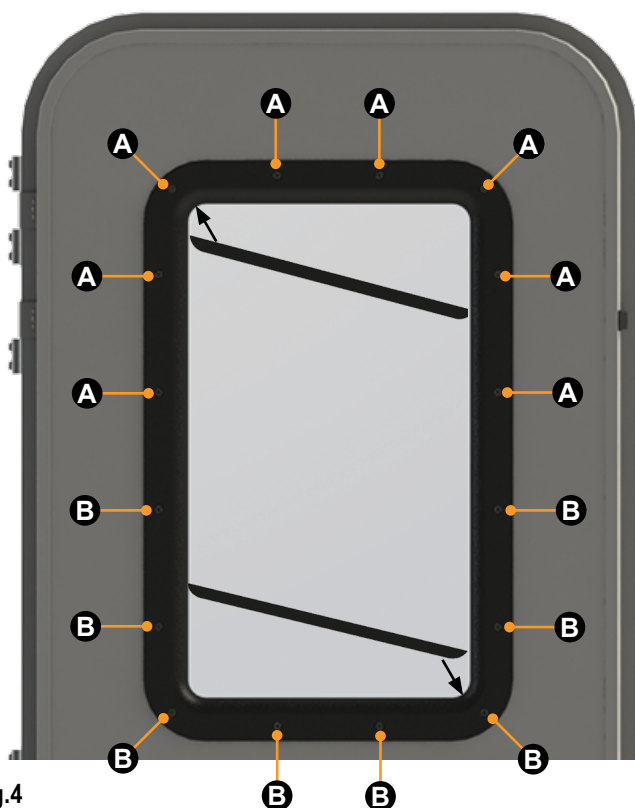

Fig.4
12. Holding the top rail at an approximate 45 degree angle, insert one end into the corner between the inner frame and glass (Fig.4).
18. Holding the bottom rail at an approximate 45 degree angle, insert one end into the corner between the inner frame and glass (Fig.4).